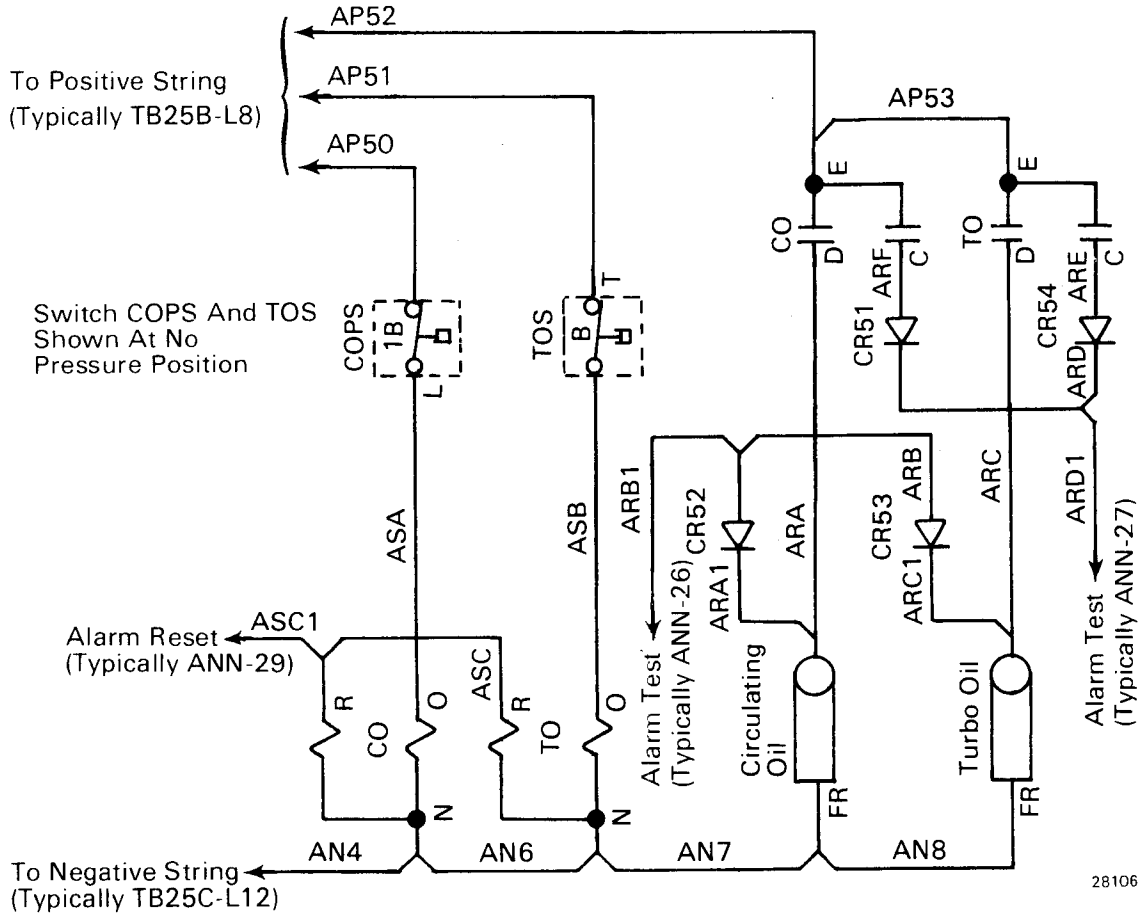

Fig.21 - Electrical Schematic, "999" Unit Pressure Switch Circuits
3. Install new wiring using the following typical wire running list as a guide. Refer to Figs. 21, 22, and 23 for interconnections.